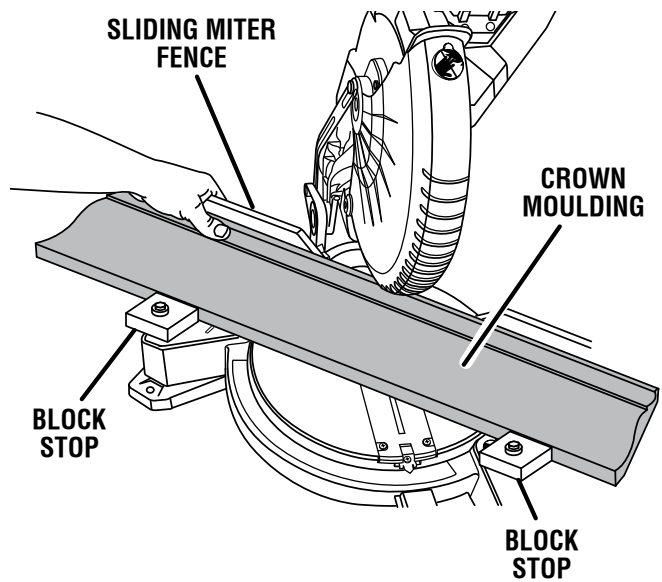

Fig. 33
- Nest and secure the crown molding against miter fence and the block stop, as shown in figure 33.
- Hold the molding as shown in figure 33 with your hand on miter fence and molding.